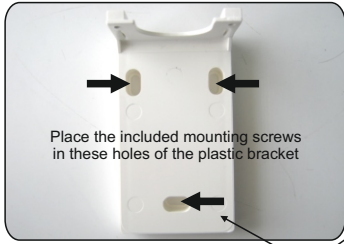
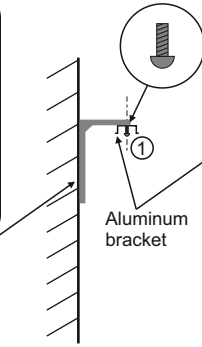

Figure 1
Figure 2. Side view
- ⑤ Install the included plastic bracket on the wall (figure 1). Remove the aluminum bracket from the luminaire and use the two supplied mounting screws to install the aluminum bracket to the plastic bracket (figure 2). Slide the luminaire to the aluminum bracket and use the bolt on the center (*), to stabilize the luminaire (figure 2).